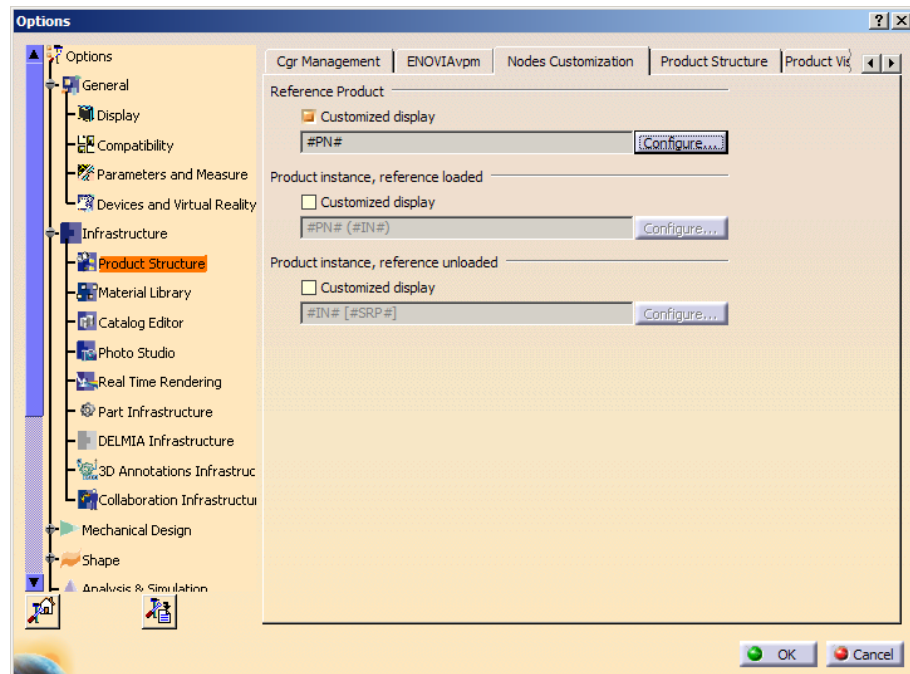

Figure 10: CATIA Node Customization options
E.g. the column *Name* is not shown by default, but it contains the text configured in the customized display for Reference Product (see Figure 10).